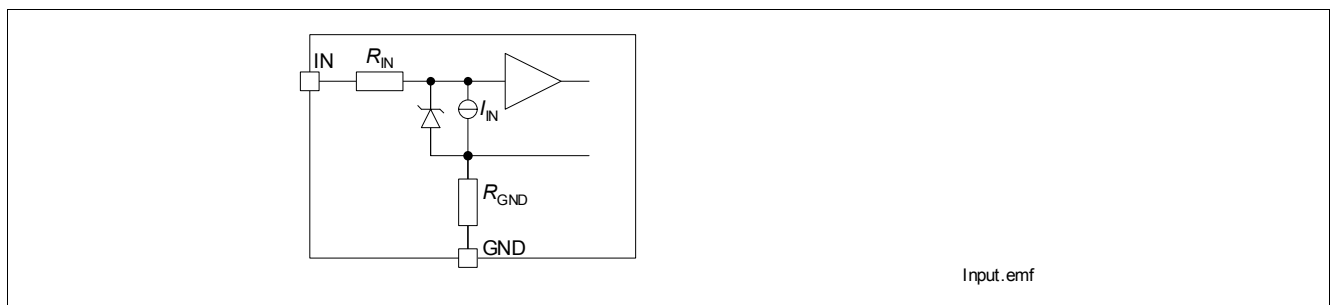

Figure 5 Input Circuit (IN1 and IN2)
**Figure 5** shows the input circuit of the BTS5235-2L. There is an integrated input resistor that makes external components obsolete. The current sink to ground ensures that the device switches off in case of open input pin. The zener diode protects the input circuit against ESD pulses.